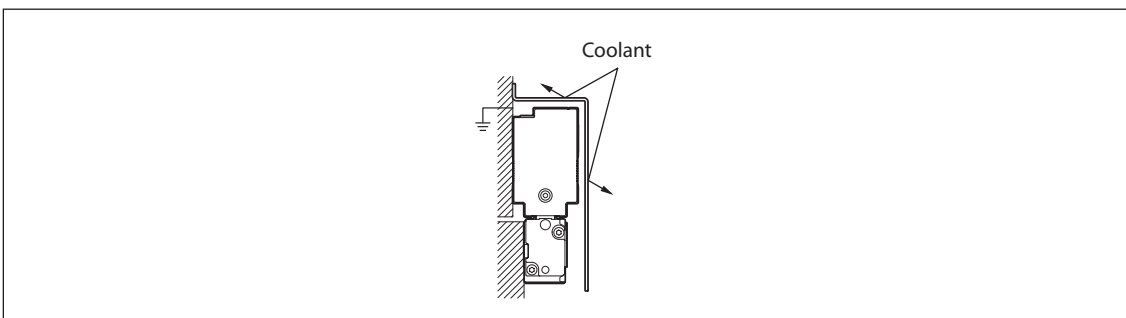

Fig. 2-2
- Be aware that the scale will be damaged if the slider is moved outside the effective length (L).
- In environments where coolant can splash directly on the scale, be sure to mount a cover on the scale to protect the scale from splashing. (Fig. 2-2)